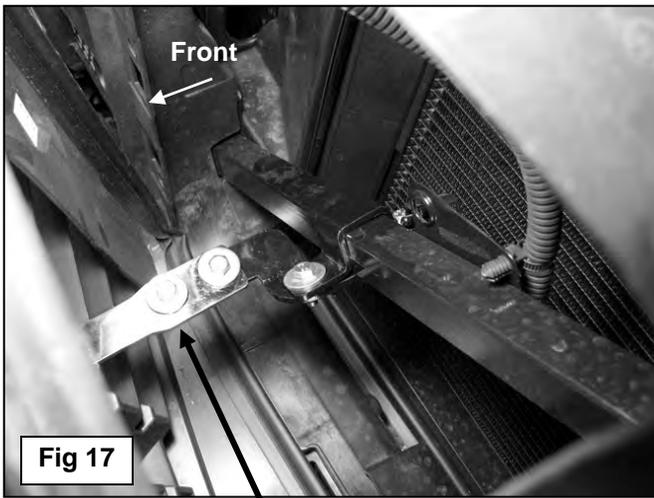

**Fig 15B**
9. Locate the square tube support braces running up at an angle from the top of the frame channel to the bottom of the hood release mechanism, **(Figs 15B, 17 & 18)**. Select the driver side Inner Top Bracket and (1) Backing Plate, **(Fig 15A)**. Hold the Inner Bracket up to the bottom of the brace tube with the Backing Plate over the top. Bolt the Brackets together around the square tube with (2) 6mm x 25mm Hex Bolts, (2) 6mm Lock Washers and (2) 6mm Flat Washers, **(Fig 15B)**. Leave loose at this time.